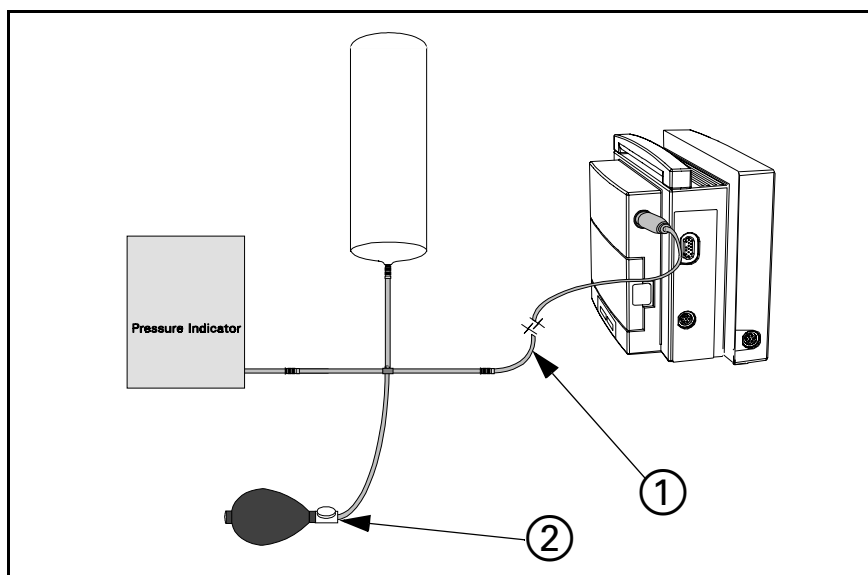

Figure 4-1 Test Setup
Set up NBP Calibration assembly (Art. No. 28 77 855 EE54U) as illustrated in Figure 4-1. Assure that pneumatic leakage is within specifications before continuing to Section 1.10.2, Calibration Check.
5. Clamp pneumatic hose (with hemostat or clamp) between T-connector and monitor (① in Figure 4-1), and using pressure bulb, increase pressure to 250 ± 5 mmHg. Then clamp hose at inflation bulb (② in Figure 4-1), and let pressure stabilize for 1 minute. *Do NOT run pump.*